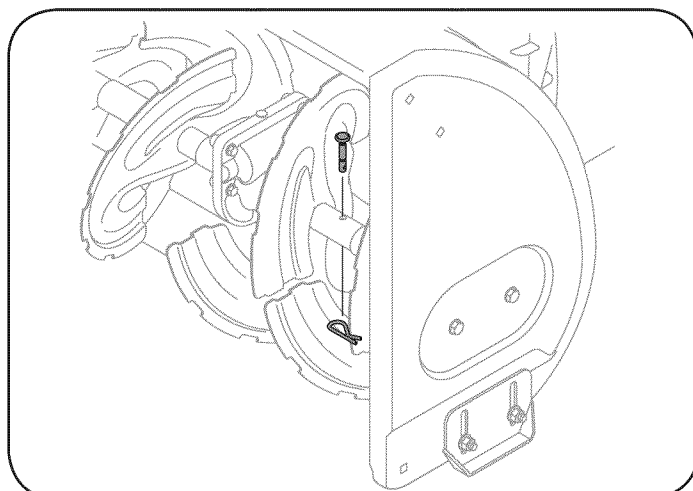

Figure 10
2. A fuel level indicator is located in the fuel tank. Fill tank until fuel reaches the fuel level indicator. See Figure 10 inset. Be careful not to overfill.
The augers are secured to the spiral shaft with two shear pins and bow-tie clips. If the auger should strike a foreign object or ice jam, the snow thrower is designed so that the shear pins may shear. If augers will not turn, check to see if the pins have sheared. See Fig. 10.